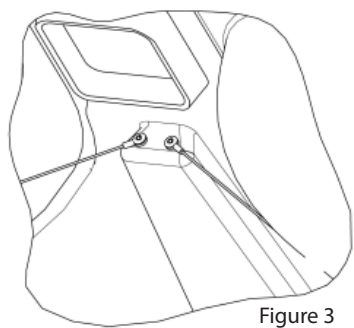

Figure 3
Refer to Figures 3 & 4.
Drill four 13/64" holes to mount the tethers (*as shown in Figures 3 & 4*). Attach tethers to the bottom of sink bowl with (2) PC-000105 bulbex rivets & to the inside of the sink tank with (2) PC-000102 rivets & (2) PC-000106 back-up washers.